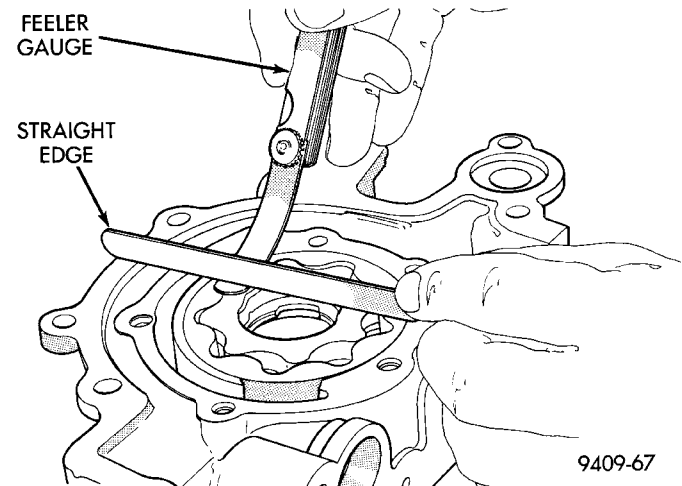

Fig. 101 Measuring Clearance Over Rotors
(1) Clean all parts thoroughly. Mating surface of the oil pump should be smooth. Replace pump cover if scratched or grooved.
(2) Lay a straightedge across the pump cover surface (Fig. 101). If a 0.076 mm (0.003 inch.) feeler gauge can be inserted between cover and straight edge, cover should be replaced.